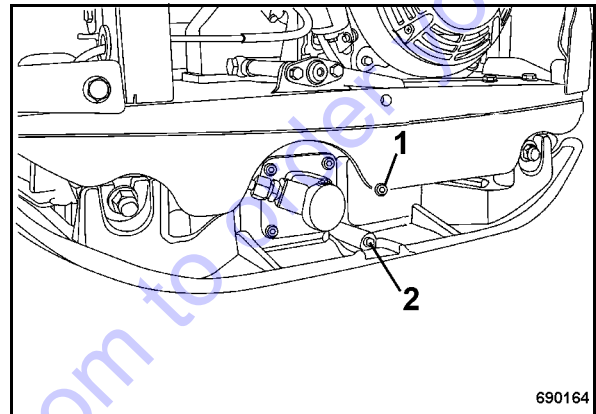

Fig. 48
- Unscrew the bleeding screw (1) (Fig. 48).
- Unscrew the oil drain plug (2) and check the oil level.